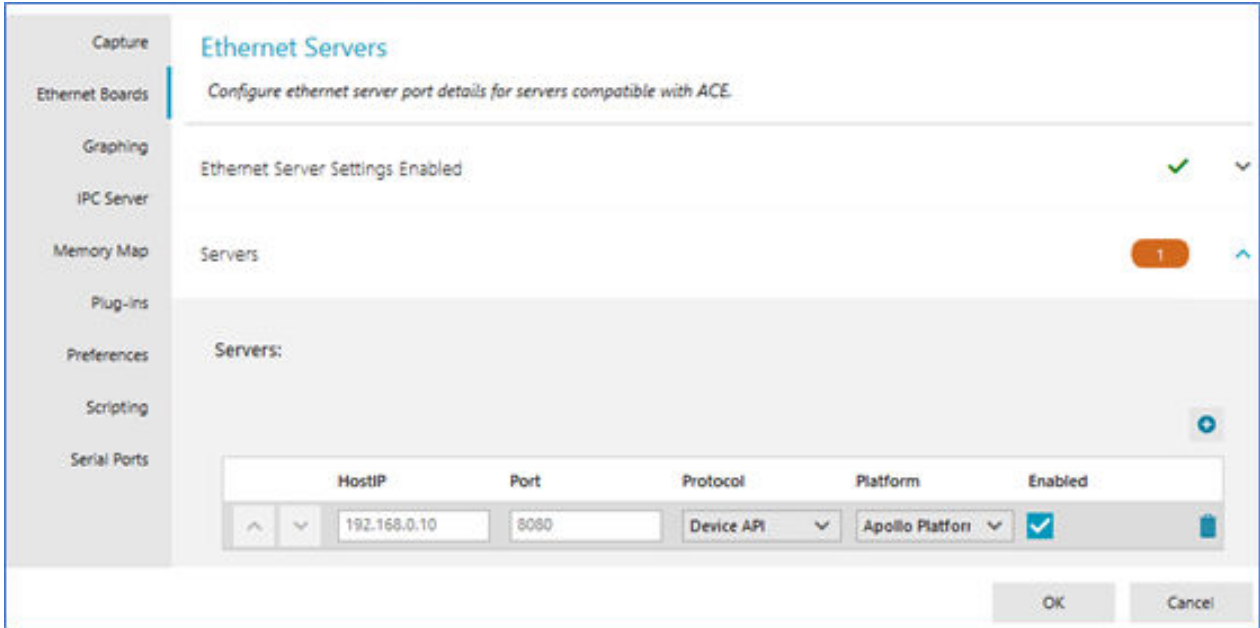
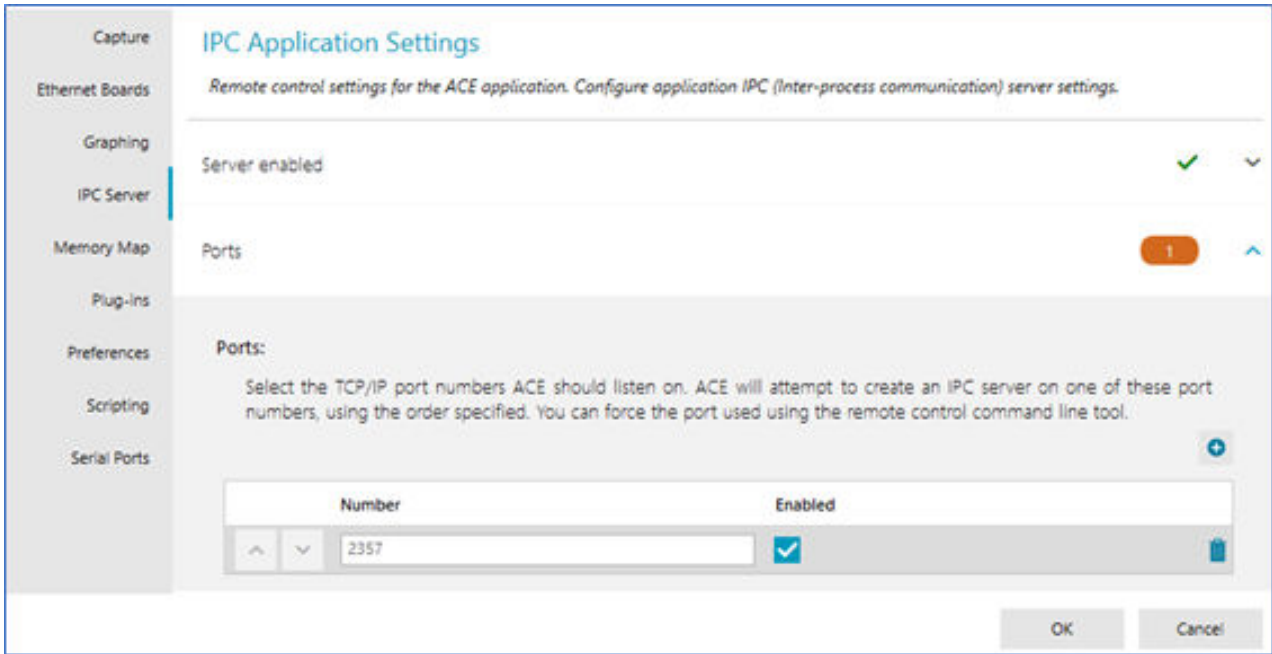

Figure 9. Ethernet Server Settings in ACE
Figure 10. IPC Server Settings in ACE
The **ACE Software** automatically configures the Ethernet settings and IPC server settings. Figure 9 and Figure 10 show the correct configurations. These views are accessible by clicking the **Settings** link in the lower left corner of the **ACE Software** GUI.
- ▶ If the connection to the **ADS10-V1EBZ** is lost, it can be reset by disabling both the Ethernet boards server (that is, the RPC server) and the IPC server, and then re-enabling the RPC and IPC servers. The settings are accessed as shown in Figure 9 and Figure 10.